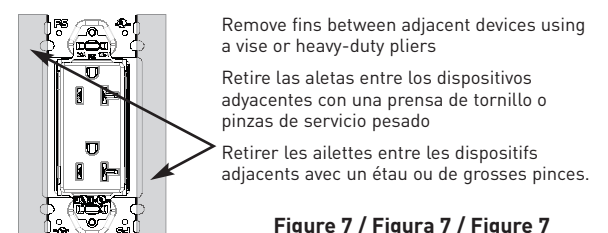

Figure 7 / Figura 7 / Figure 7
- Remove the fins between adjacent devices. (See Figure 7.)
4. Retirer les ailettes entre les dispositifs adjacents. (Voir Figure 7.)